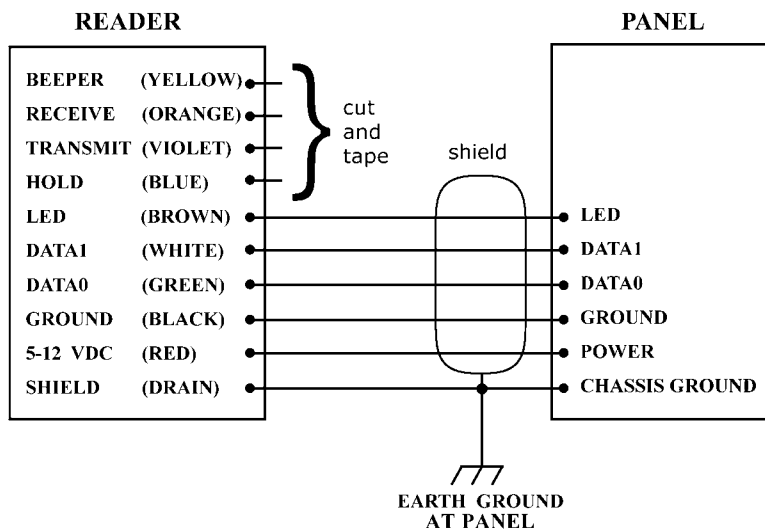

FIGURE 2: WIRING DIAGRAM (WIEGAND)
4. Connect the reader's cable to the access control panel as shown in Figure 2. Connect the **yellow** wire only if used for Beeper control by the panel. Connect the **blue** wire only if used for Hold control by the panel. **Do not connect the orange and violet wires to anything. Tape or cap all unused wires singly.**
- 5 to 7 conductors (not twisted pairs), stranded, 22 AWG, color-coded insulation, overall 100% shielded (Number of conductors depends upon use of optional features – Beeper, Hold and LED. See Figure 2.)